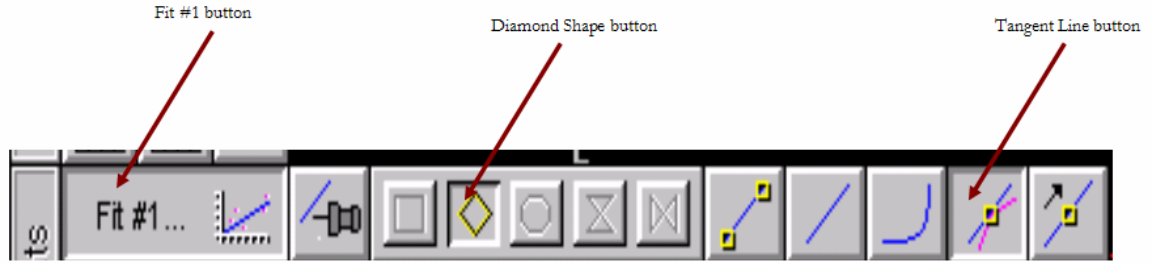

Figure 41: Fits window
13. The following menu should pop-up like Figure 41. Click on the Fit #1 button and the diamond shape, to identify which graph the tangent line will be drawn. Click the Tangent Line button to obtain the tangent line onto the ID vs. VG curve, see Figure 41.